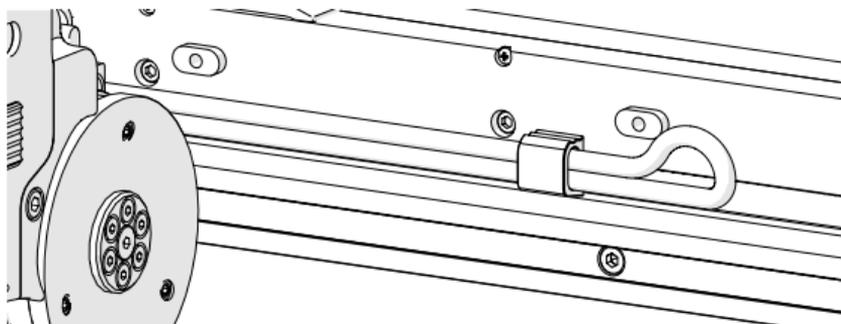

Fig. 44 - Route cable through the clip twice
4. The cable management can accommodate two cables to route excess cabling (*Fig. 44*).